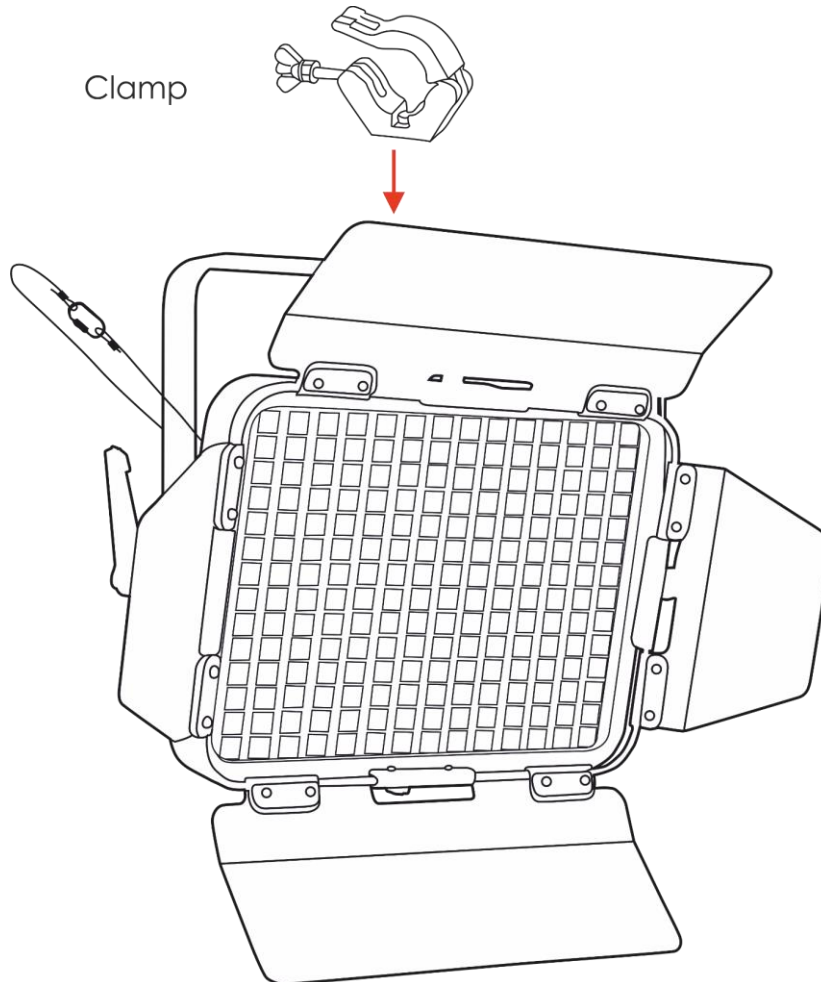

Fig. 06
- 01) Turn the **adjustment screw (01)** counterclockwise to release it.
- 02) Tilt the device to the desired angle (see Fig. 06).
- 03) Turn the **adjustment screw (01)** clockwise to tighten it. Make sure that the device cannot move freely after the **adjustment screw (01)** is tightened.